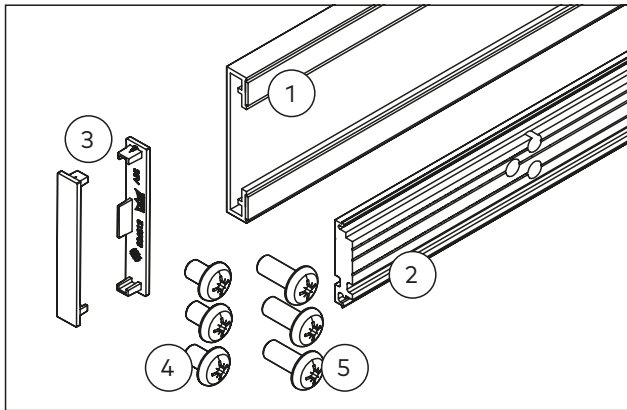

Fig. 4 Parts included with 24 mm door frame lining
- 2 x counter profile with gaskets (Fig. 4/1)
- 2 x lining profile (Fig. 4/2)
- 4 x end caps for counter profile (Fig. 4/3)
- 3 x screws M8x12 (Fig. 4/4)
- 3 x screws M8x20 (Fig. 4/5)